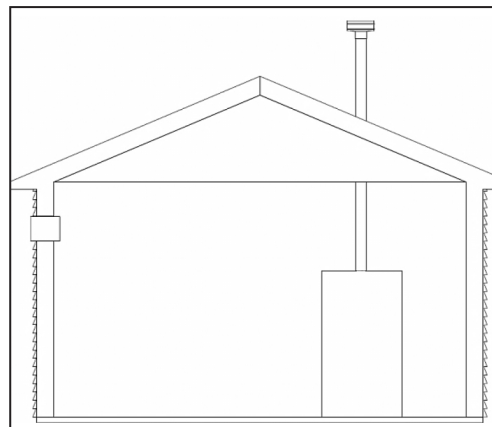

Figure 21 - Combustion Air from Outdoors - Single Opening
4. If a single combustion air opening is provided to bring combustion air in directly from the outdoors, the opening must be sized based on a minimum free area of one square inch per 3000 BTU/hr. This opening must be located within 12" of the top of the enclosure. See Figure 21.